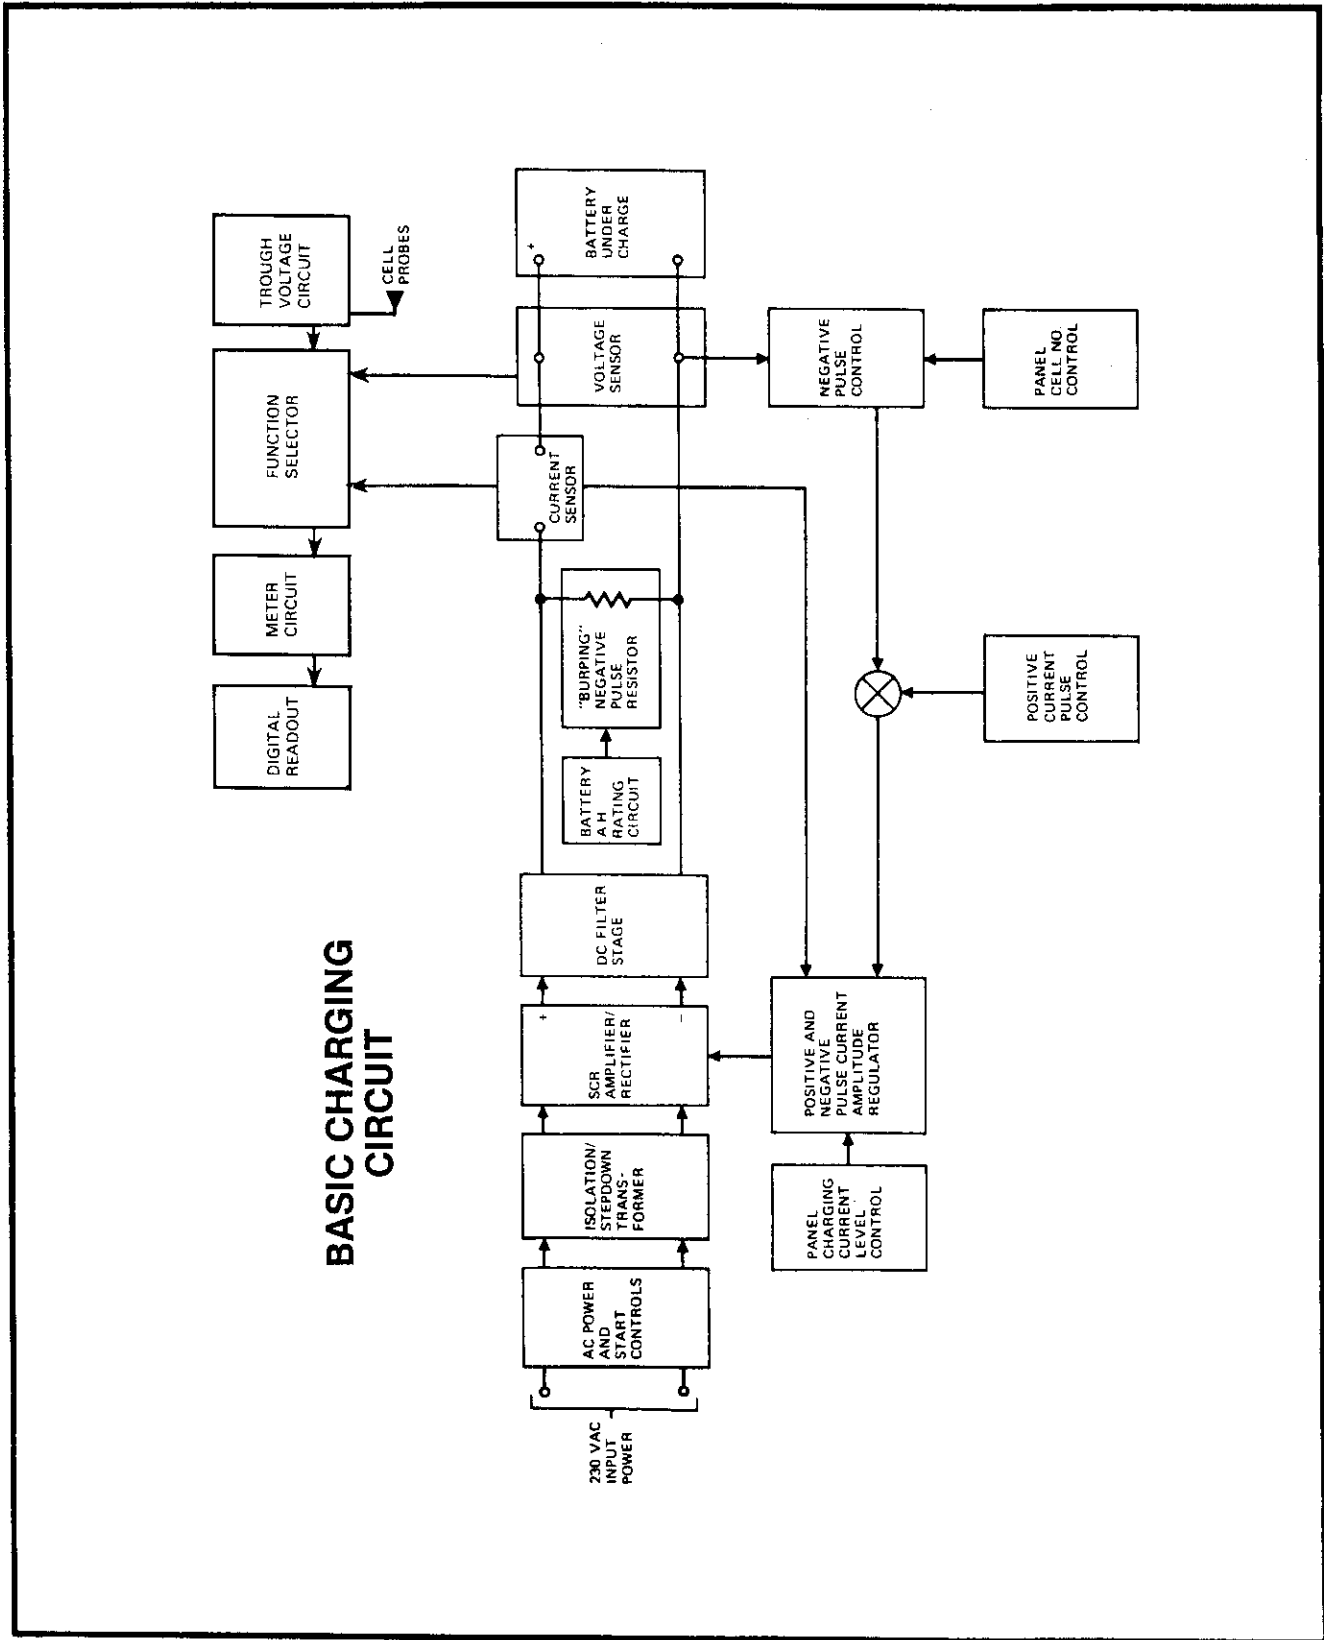
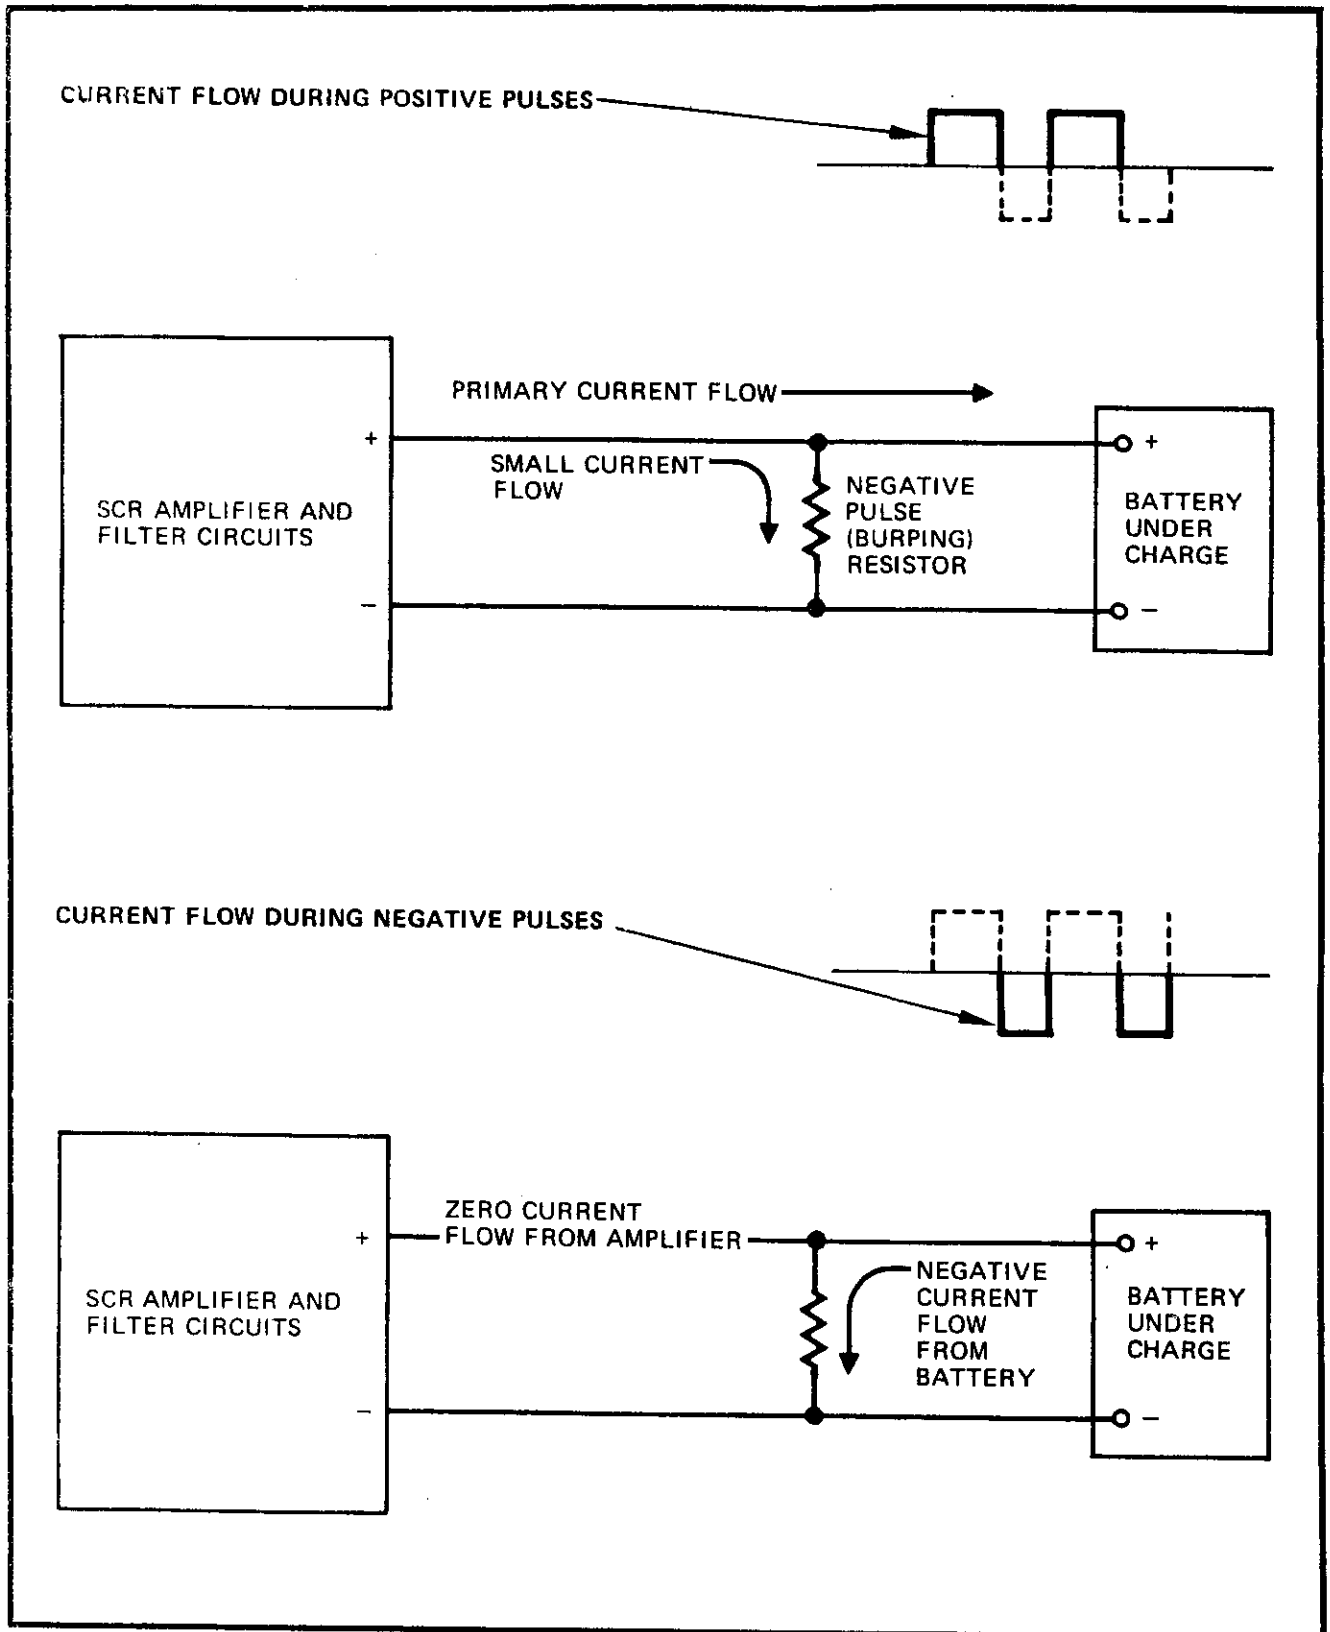

Figure 1-5. Charging Circuit Functional Block Diagram
Figure 1-6. Circuit Function During ReFLEX Charging
- 1-30. THE CHARGING CIRCUITS. Figure 1-5 is a block diagram of the basic ReFLEX charging circuits and Figure 1-6 illustrates how the circuits work during the positive and negative current pulses of the ReFLEX cycle. The basic a-c power is applied through the AC and START switches to an isolation/stepdown transformer. The basic output of this transformer is applied to Silicon Controlled Rectifiers (SCR's). Other transformer outputs are used by the control and other circuits. The SCR's provide amplification and rectification. The d-c output from the SCR's is further filtered by a reactor and capacitor to reduce ripple. The output of the filter stage is passed through a current-sensing shunt to the battery being charged. A voltage sensing circuit is connected across the output. A multi-tapped resistor is also connected across the output. This is the negative pulse "burping" element used to discharge (depolarize) the battery during ReFLEX charging.
- 1-32. As shown in Figure 1-6, during the positive pulse portion of the charging cycle, current at the regulated level is applied to the battery and a small amount of current is also passed through the "burping" resistor. During the negative pulse portion of the charging cycle, however, the output of the SCR amplifier is shut off for the duration of the negative pulse and depolarizing current from the battery flows back through the "burping" resistor to discharge the battery. The discharge energy during the "burp" is determined by the duration of the negative pulse and the resistance of the "burping" resistor which takes into consideration the ampere-hour rating of the battery. As the battery becomes more fully charged, the duration of the negative pulse and the frequency, level, and duration of the positive pulse are automatically controlled to provide optimum ReFLEX charging. When the charging cycle reaches the time set into the HOURS CHARGE timer, the unit automatically switches to the analysis or discharge mode.